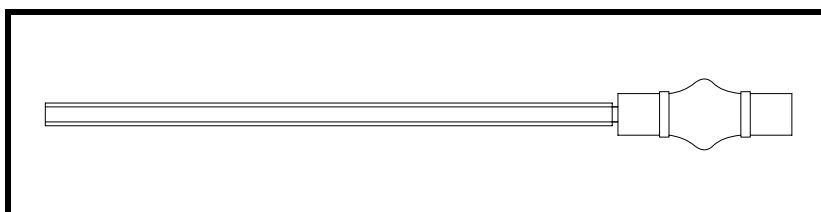

Figure 37
- ❑ Install P/N 513-2 screwjack on the universal joint for the left side of the aircraft. See Figure 37. This part has right hand threads. If you are unable to tell right hand threads from left hand threads, just remember that this screwjack has the same threads as the nose gear screwjack. The end of the screwjack has a short end to the shaft, shorter than the end of the universal joint.